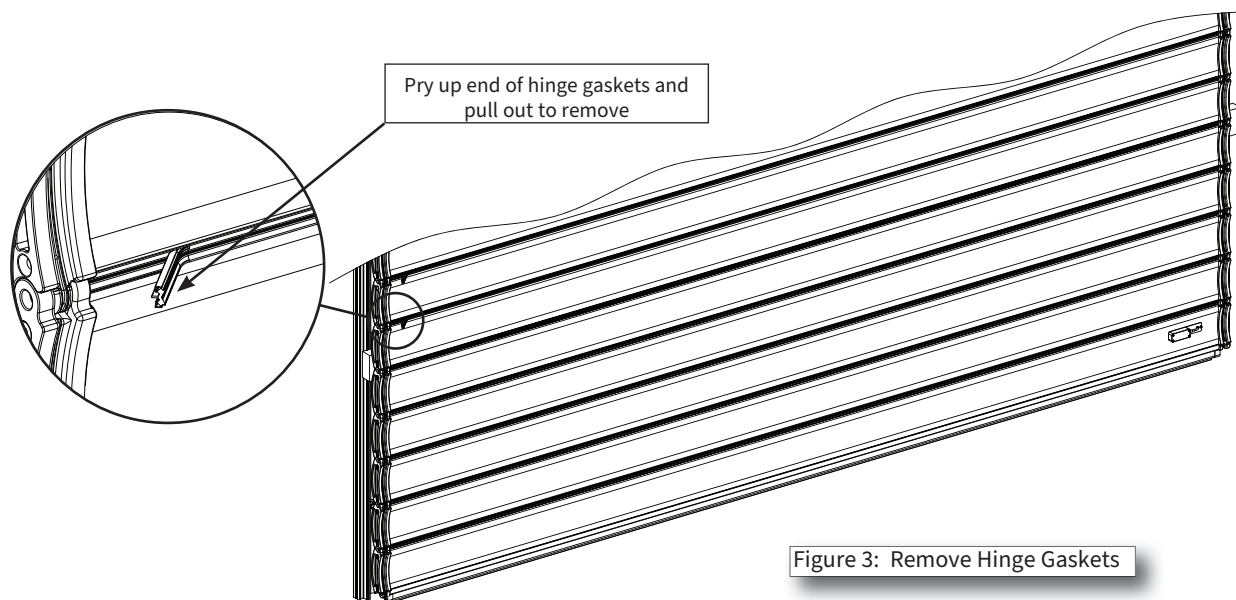

Figure 3: Remove Hinge Gaskets
- 5 Locate ends of hinge gaskets above and below slat(s) to be replaced (Figure 3). If you are replacing a slat, hinge gaskets above and below slat(s) need to be removed.